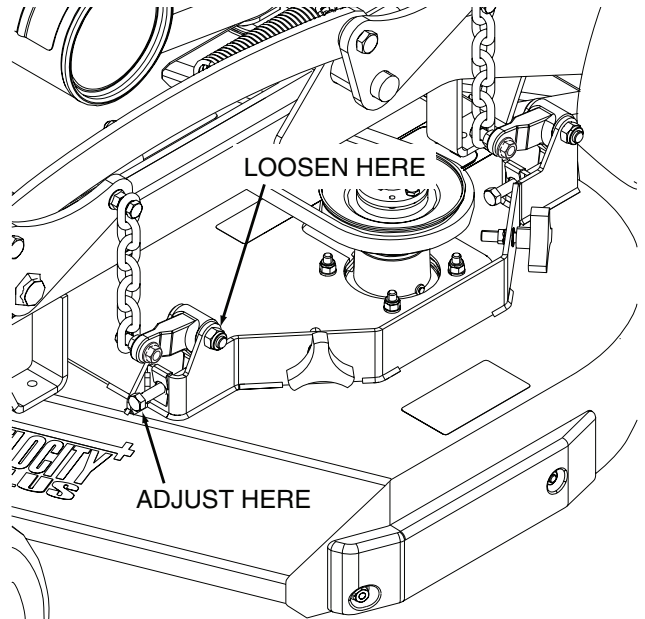

Figure 6-4. Cutter Deck Pitch Adjustment
1. Loosen the elastic stop nuts securing the deck level links on the front of the cutter deck on both sides. See Figure 6-4 and 6-5.